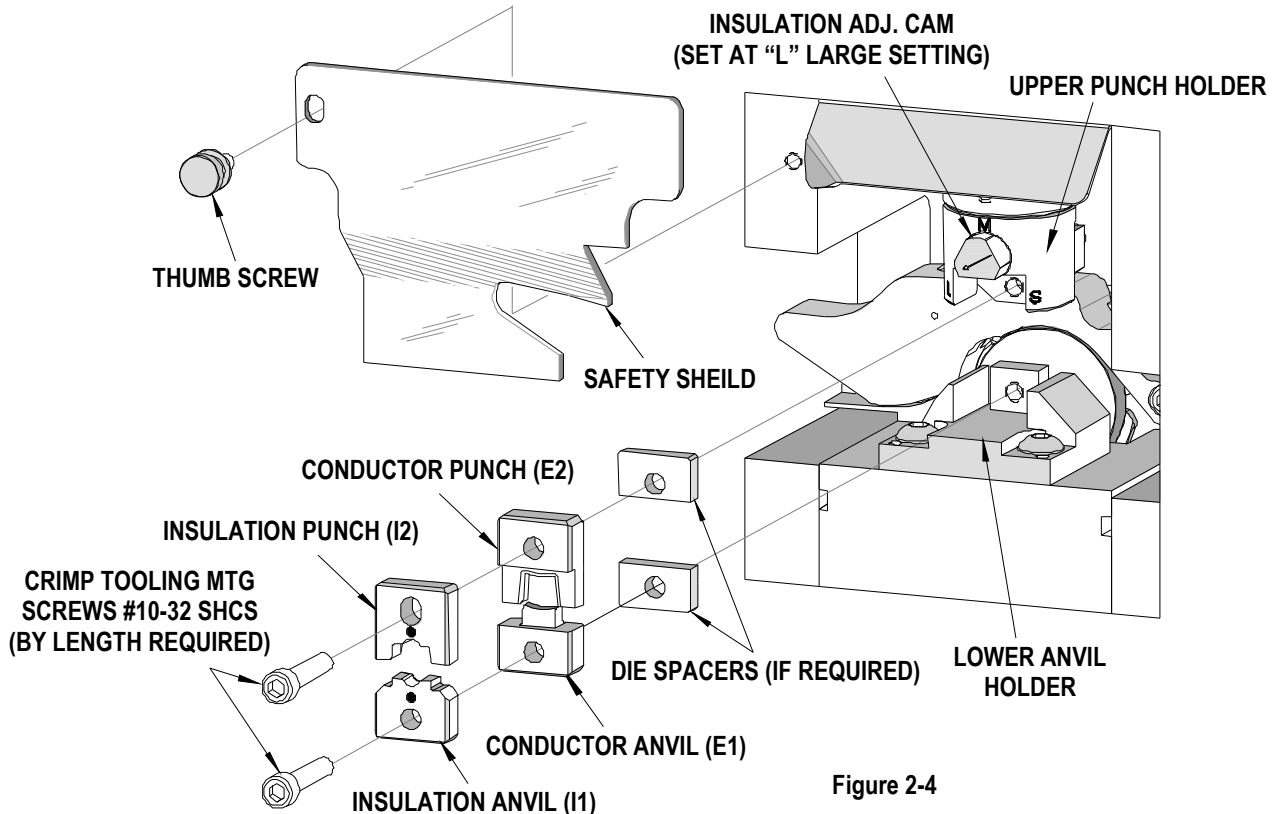
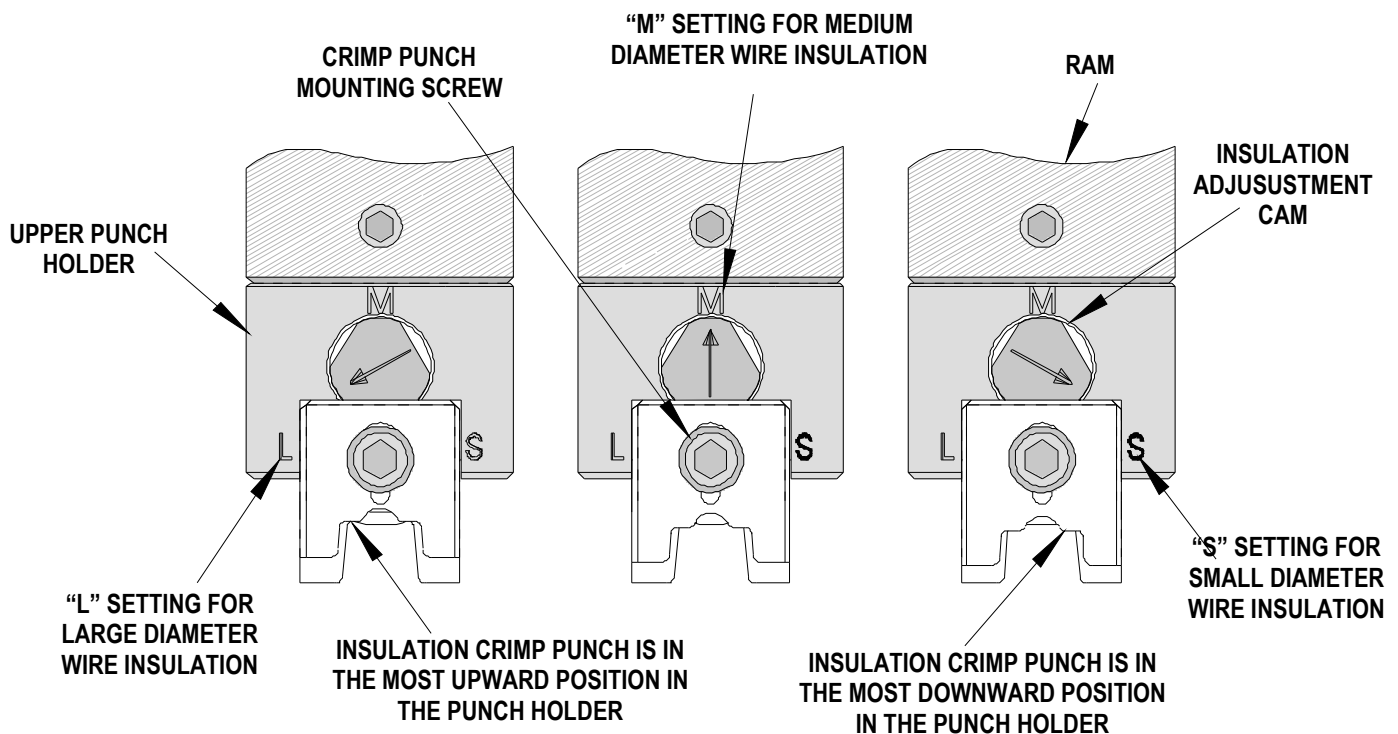

Figure 2-4
Figure 2-5
2.5. Crimp Tooling Installation and Removal (See Figure 2-4)
3. Place the crimp punches (E2 and I2 if required) into the upper punch holder. If the upper tooling requires a die spacer, install as shown in Figure 2-4. Be certain to orient the punches in the proper direction (refer to the Crimp Tooling Specification Sheet when necessary). Using a 5/32" hex wrench, start the #10-32 SHCS but do not fully tighten. Rotate the insulation adjustment cam to the desired position ("L", "M", or "S"). See Figure 2-5. Push the upper punches (E2 and I2) upward with your fingers to ensure proper seating in the upper punch holder and tighten the #10-32 SHCS.
1. Lift the ram up and place the crimp anvils (E1 and I1 if required) into the lower anvil holder. If the lower tooling requires a die spacer, install as shown in Figure 2-4. Be certain to orient the anvils in the proper direction with the part number facing the operator (refer to the Crimp Tooling Specification Sheet when necessary). Tighten the #10-32 SHCS.
2. Lower the ram allowing the punches and anvils to close. Crimp tooling should be aligned and engage with no resistance. If binding occurs, loosen the (2) #10-32 SHCS. With the ram in the down position and the tooling engaged, tighten the (2) #10-32 SHCS. If insulation tooling is installed, be certain to push up on the insulation punch before tightening the screw.
2.6. Insulation Punch Adjustment (See Figure 2-5)
Die spacers are required for certain tape-mounted products. For example, products with large ring or spade configurations require the crimp tooling to be repositioned for proper termination. To install a die spacer set, follow the instructions in Section 2.4 Crimp Tooling Installation and Removal and refer to the Crimp Tooling Specification Sheet when necessary. Die spacers are always positioned behind the required crimp tooling (See Figure 2.4) and will require longer crimp tooling mounting screws. A variety of screws are provided in the fastener kit supplied with the machine.